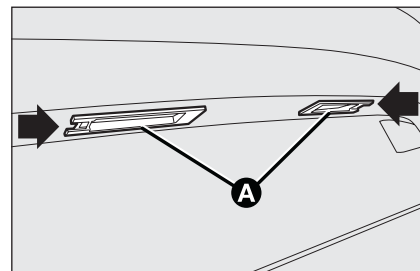

fig. 34
- ☐ work in the point shown by the arrow and remove lens unit **A**-fig. 34;